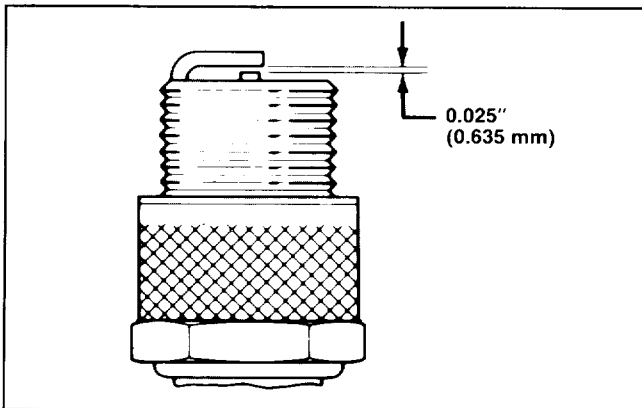

Figure 22
5. Set air gap between center and side of electrodes at 0.025 of an inch (0.635 mm) (Fig. 22). Install correctly gapped spark plug w/gasket seal, and tighten plug to 10–15 ft–lb (14–20 N m). If torque wrench is not used, tighten plug firmly.